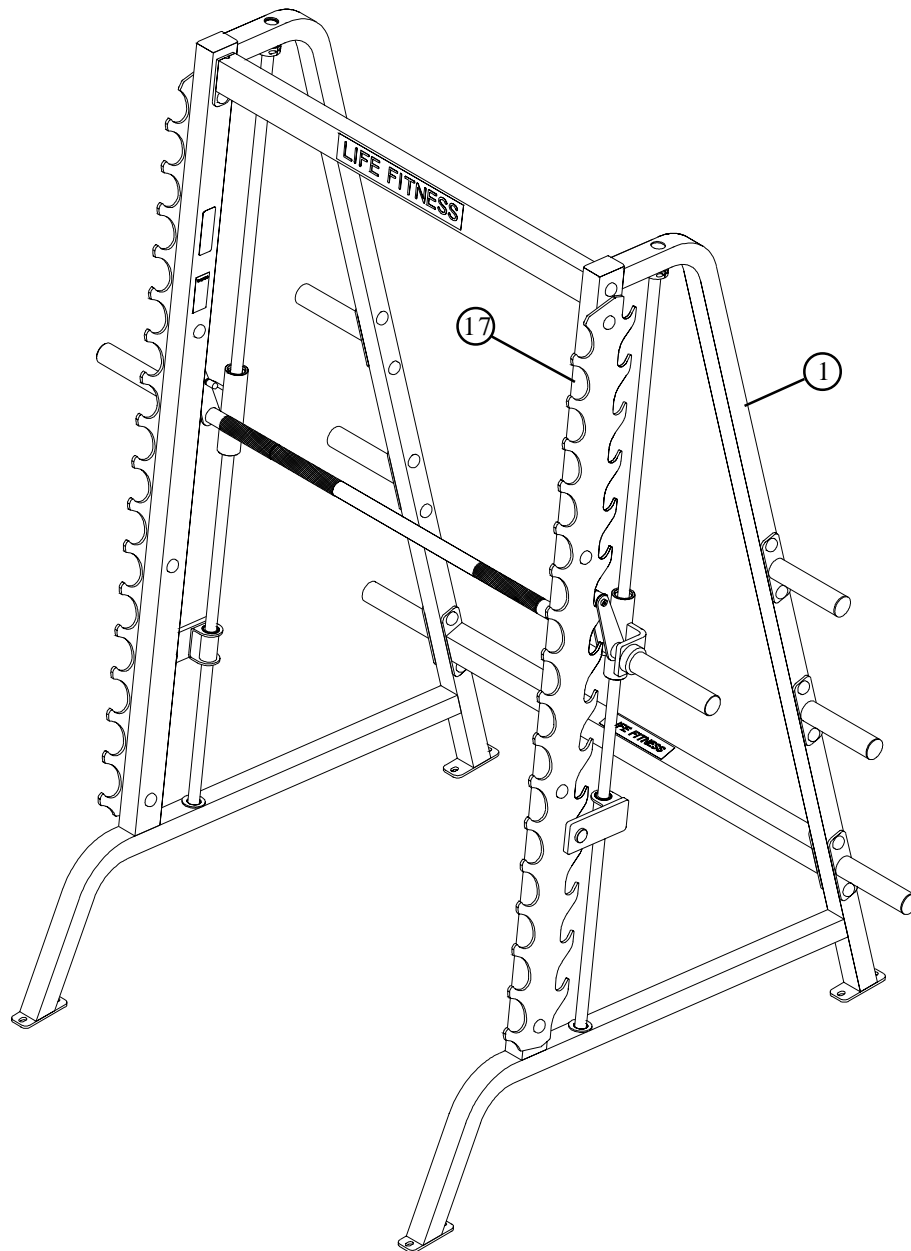

FIGURE 6
- If necessary, apply the FOREIGN LANGUAGE PLACARD LABEL (17) to the PLACARD LABEL on the RIGHT UPRIGHT (1) as shown in FIGURE 6.